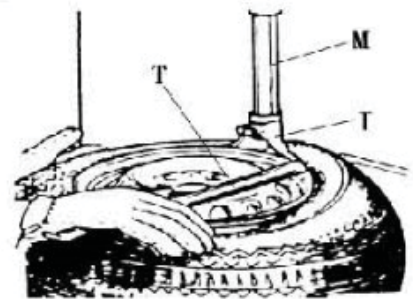

Fig 6
Lower the Vertical Arm (M) until the Mounting/demounting head (I) rests next to the edge of the rim, flip the Locking Handle to lock the Vertical Arm and Swing Arm in position, and also adjust the Rocker Arm make Mounting/demounting head can raise 2mm-3mm automatically from the edge of the wheel rim. Insert the Lifting Lever (T) between the tire bead and the front section of the mounting/demounting head (I), and move the tire above the mounting/demounting head as shown as **Fig 6**.